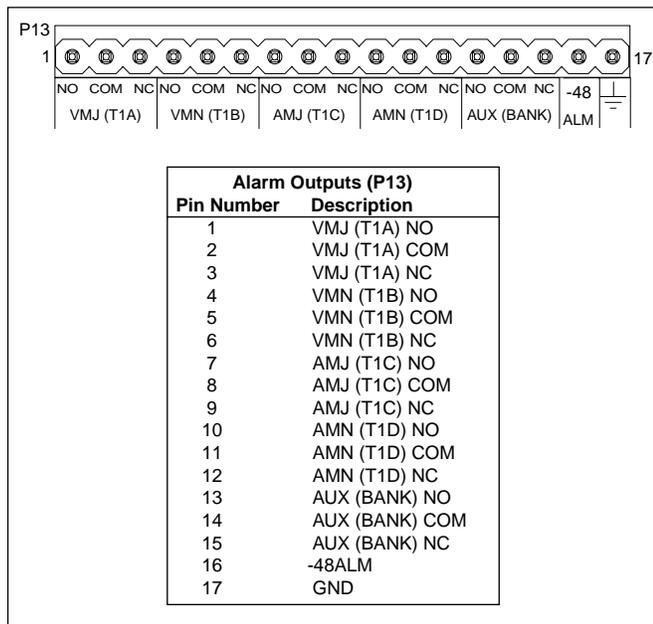

Figure 5. Alarm Contacts
Depending on the vendor equipment employed at the CO, wiring external alarms from the Total Access 1500 shelf will vary slightly. The important consideration is whether the external alarm equipment requires a Normally Open (NO) or Normally Closed (NC) circuit to pass an alarm. After determining what the CO equipment requires, connection can be made to the equipment from the Total Access 1500 shelf, see **Figure 5** for location of alarm contacts. The following steps are instructions for connecting alarm outputs to the Total Access 1500.
There are four external alarm inputs that can be reported to the SCU on the Total Access 1500 shelf. These are marked ACO, RMT, AUX and AUX2, see Figure 5. Terminal B supplies a -48 Vdc source. Terminal A expects -48 Vdc if an alarm condition exists on the alarmed equipment.